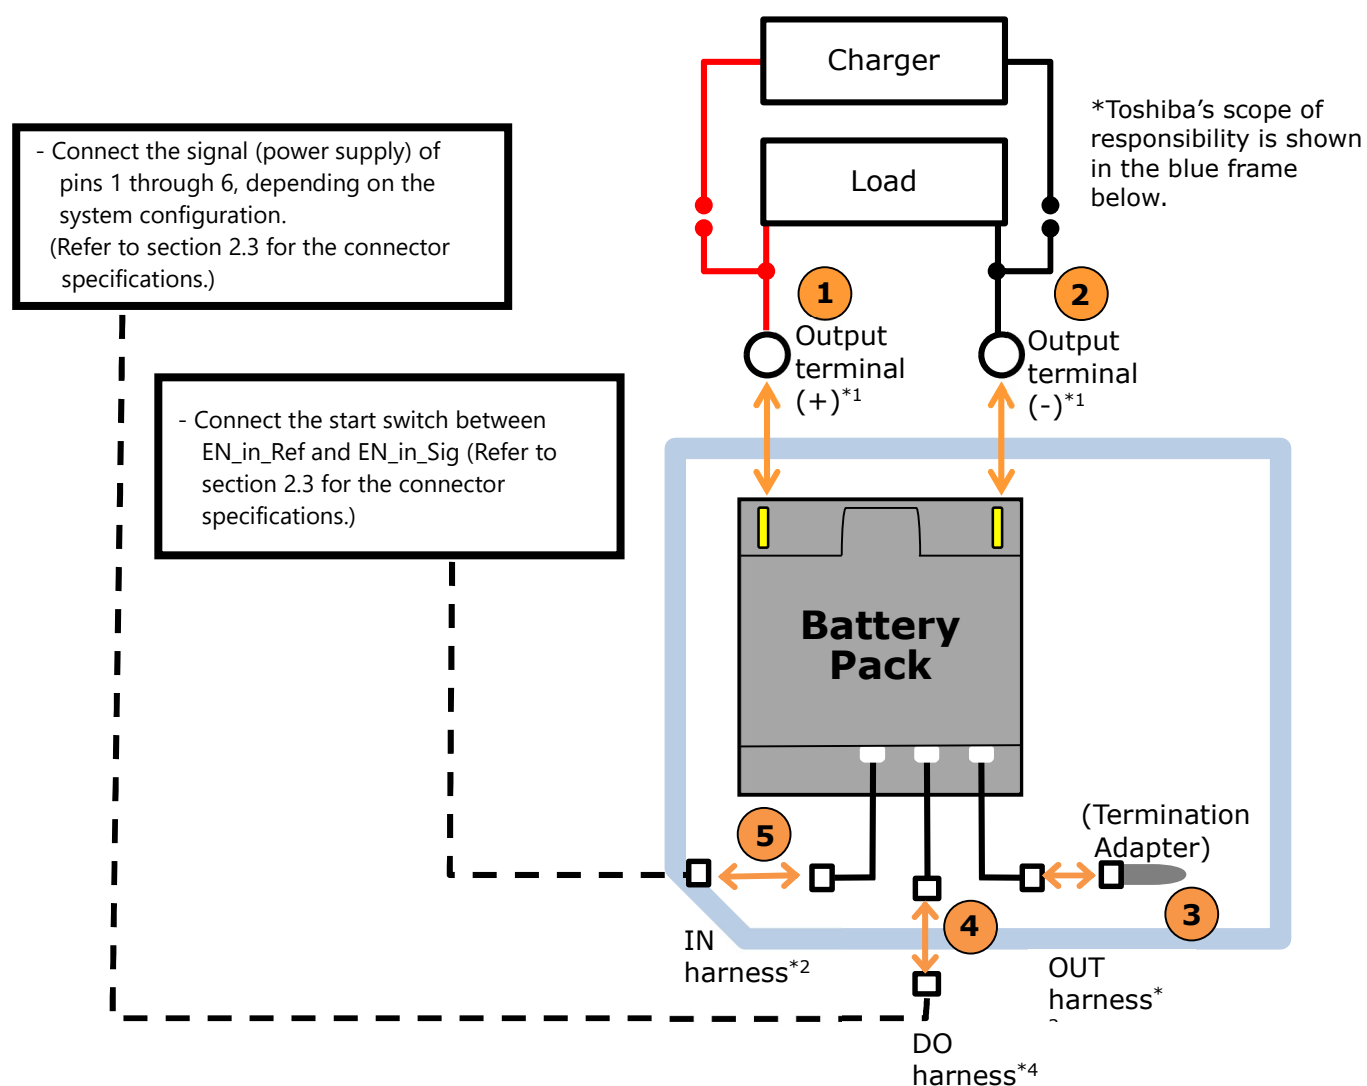

Figure 6-3 Connection Configuration with Only DO Output
Please connect each device from ① to ⑤ in order as shown in Figure 6-3.